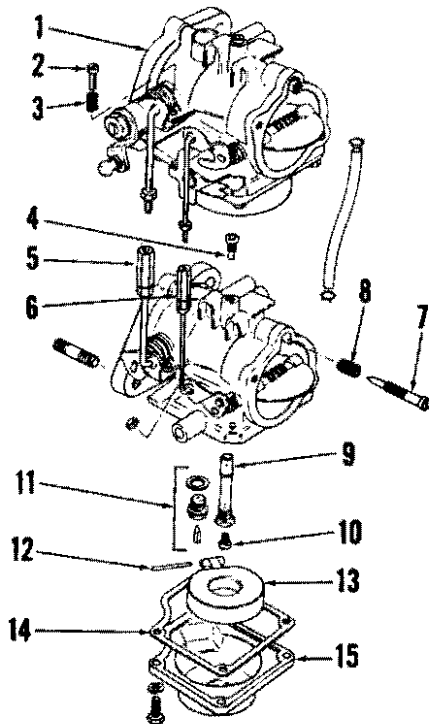

Fig. SZ14-1—Exploded view of Mikuni carburetors typical of all models.
CARBURETOR. Mikuni type B40-32 carburetors are used on all models. Refer to Fig. SZ14-1 for exploded view. Initial setting of pilot air screw (7) from a lightly seated position should be $1\frac{1}{4}$ to $2\frac{1}{4}$ turns on DT50 models prior to 1984 and DT65 models and $1\frac{1}{8}$ to $2\frac{1}{8}$ turns on 1984 DT50 models and DT60 models. Final carburetor adjustment should be made with engine at normal operating temperature and running in forward gear. Rotate timing adjustment screw (B—Fig. SZ14-11) in small increments until engine idles at approximately 650-700 rpm. Adjust pilot air screw so engine idles smoothly and will accelerate cleanly without hesitation. If necessary, readjust timing adjustment screw to obtain 650-700 rpm idle speed.
To synchronize throttle plate opening of top carburetor with bottom carburetor, use Suzuki carburetor balancer 09913-13121 or equivalent and make adjustment at throttle shaft connector (5—Fig. SZ14-1).